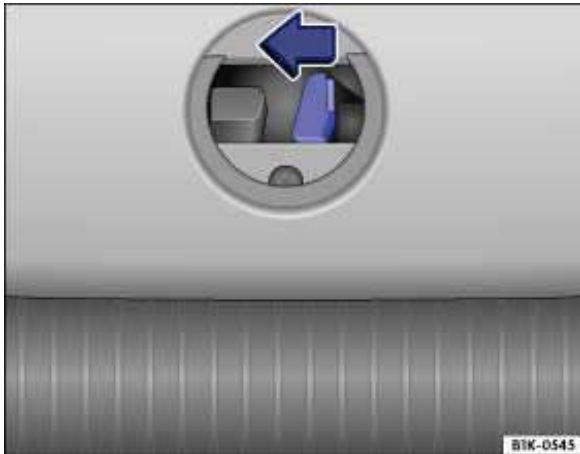

Fig. 176 Inside the luggage compartment: Opening the rear hatch.
- Push the release lever in the direction of the arrow to unlock the rear hatch ⇒ fig. 176.